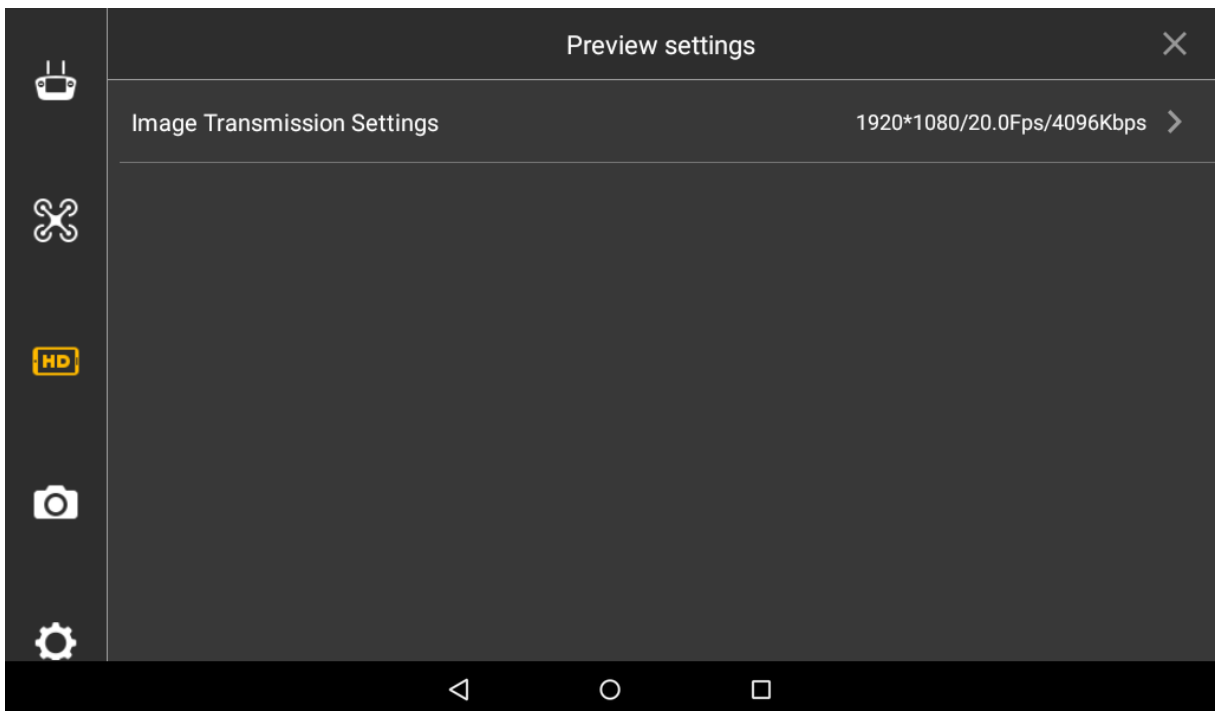

Figure 4-26
Step 1 Select “Settings > Flight Control Settings > Preview Settings” and enter the preview setting interface, as shown in Figure 4-26.